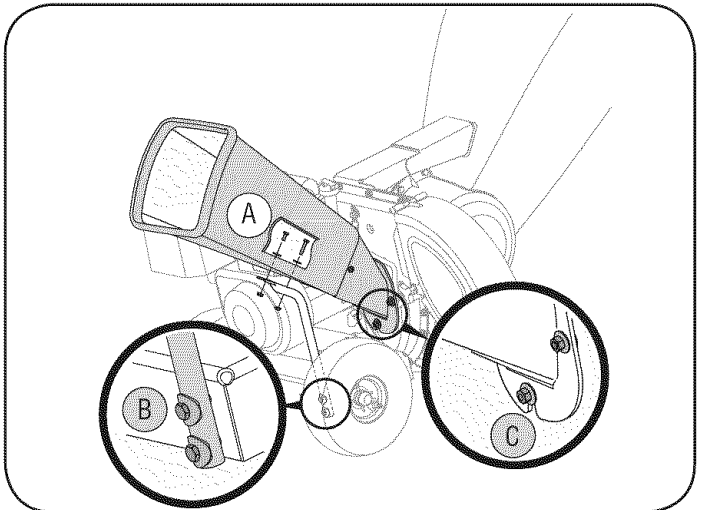

Figure 7
- a. Align the holes in the chute with the holes in the top of the brace and attach brace to chipper chute with hardware previously removed. Tighten securely. See Figure 7.